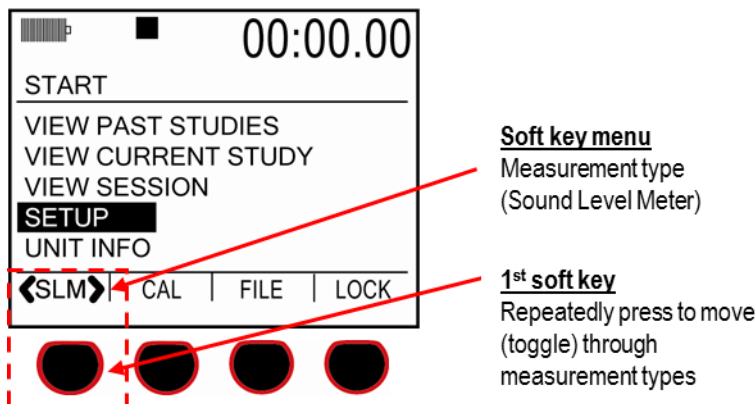

Figure 3-3: Measurement type and start screen
- If turned on and you are not at the start screen, press **On/Off/Esc**  repeatedly until the start screen appears (see Figure 3-3).
- If turned on, press **On/Off/Esc**  repeatedly until you return to the start screen (see Figure 3-3).
4. To set the **response time** for Meter 1, press the second soft key repeatedly until the either **Fast (F)**, **Slow (S)**, or **Impulse (I)** is selected.
- If turned on, repeatedly press **On/Off/Esc**  until you return to the start screen (see Figure 3-3).
- If turned on, repeatedly press **On/Off/Esc**  until you return to the start screen (see Figure 3-3 above).